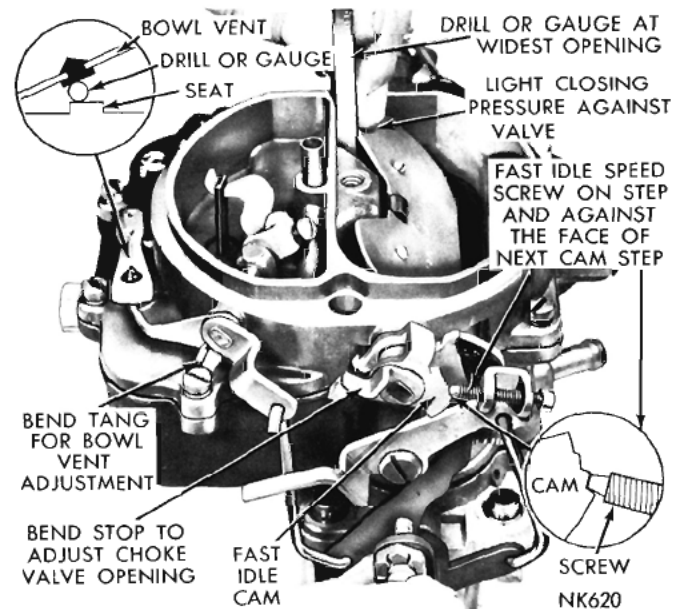

Fig. 10—Fast Idle Cam Position Adjustment
ing the step on the fast idle cam shown in (Fig. 10), move the choke valve toward the closed position with light pressure. Insert a NO. 35 drill between the choke valve and the wall of the air horn.
(2) An adjustment will be necessary if a slight drag is not obtained as the drill or gauge is being removed.
(3) If an adjustment is necessary, bend the stop on the choke shaft, using Tool T109-22 until the correct valve opening has been obtained. Refer to (Fig. 10).